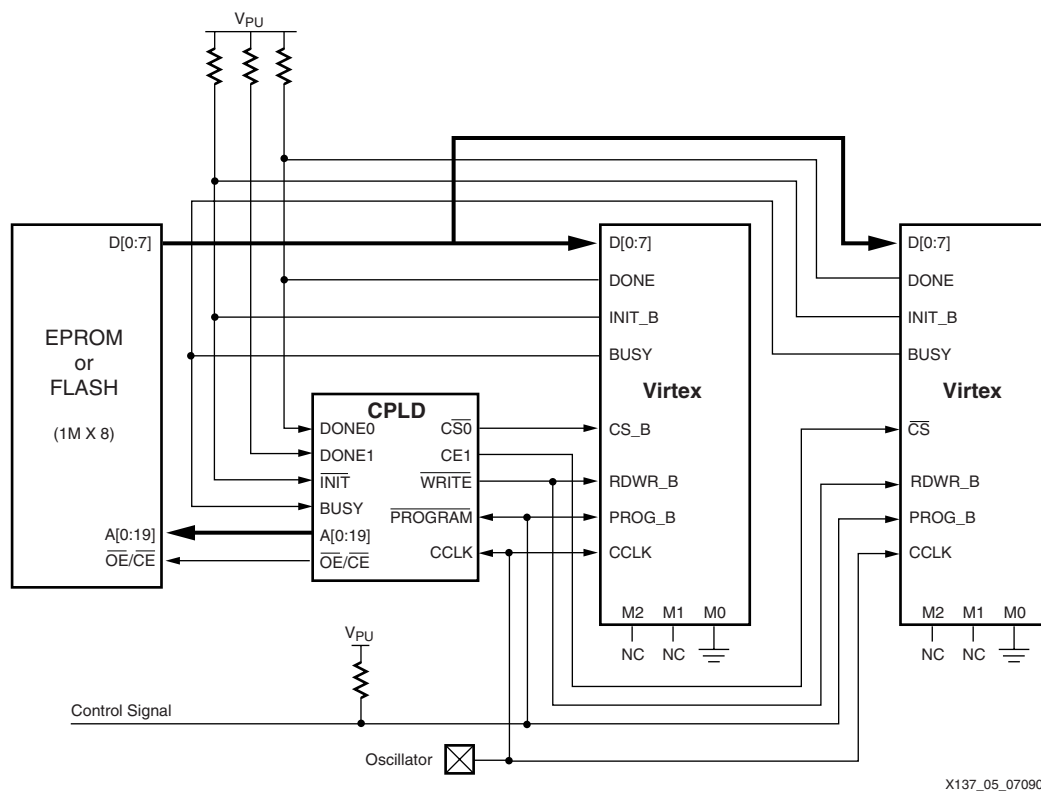

Figure 3-9: Configuring Virtex-II from Parallel EPROMs
- XAPP137: *Configuring Virtex FPGAs From Parallel EPROMs With a CPLD* (available on www.xilinx.com) describes an architecture that configures one or more Virtex-II devices using the Slave SelectMAP mode. See Figure 3-9 for an example of FPGA configuration using a CPLD and a parallel EPROM.